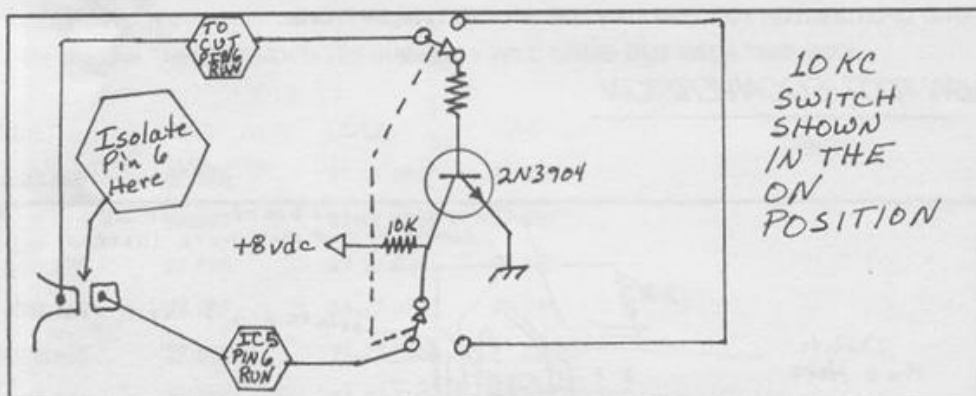

FIGURE 3. STALKER IX-FM
9. NOW, WIRE AND CONNECT THE DPDT SWITCH AND TRANSISTOR AS SHOWN IN FIG. 3. (THIS IS THE 10KC SWITCH.)